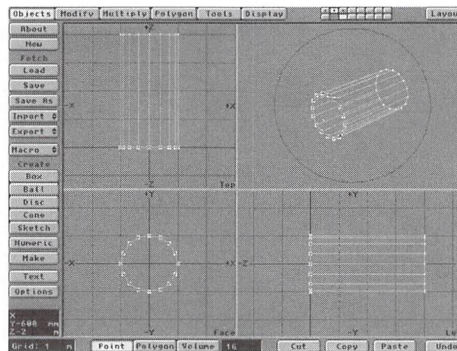

Figure 5: Selecting points on the zero plane
- Select all the points of the cylinder that sit on the zero Z plane (Figure 5) and hit (Shift+H) for the **Size** tool. Click on the **Numeric** button and enter the following values into the requester: